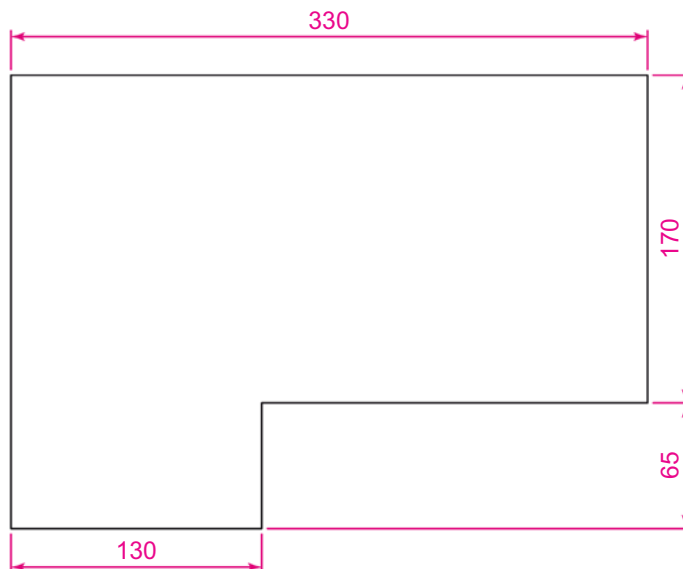
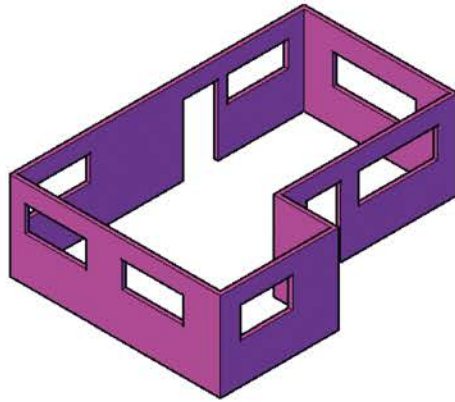

Fig. 9.40 Exercise 1 – outline for polyline
Fig. 9.41 Exercise 1
1. Fig. 9.40 shows the pline outline from which the polysolid outline Fig. 9.41 has been constructed to a height of **100** and **Width** of **3**. When the polysolid has been constructed, construct extrusions that can then be subtracted from the polysolid. Sizes of the extrusions are left to your judgement.